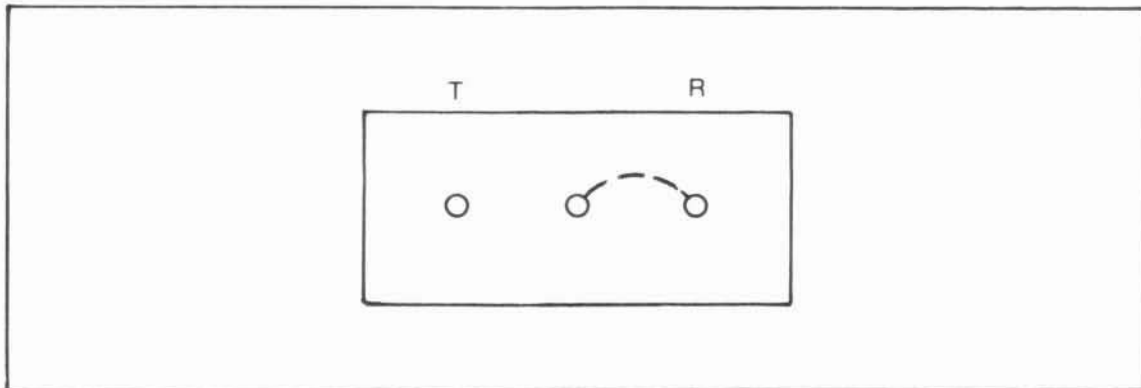

Figure 7-7. JMP1 Normal Position
1. Ensure that jumper JMP1 is installed in the run position (see Figure 7-7).